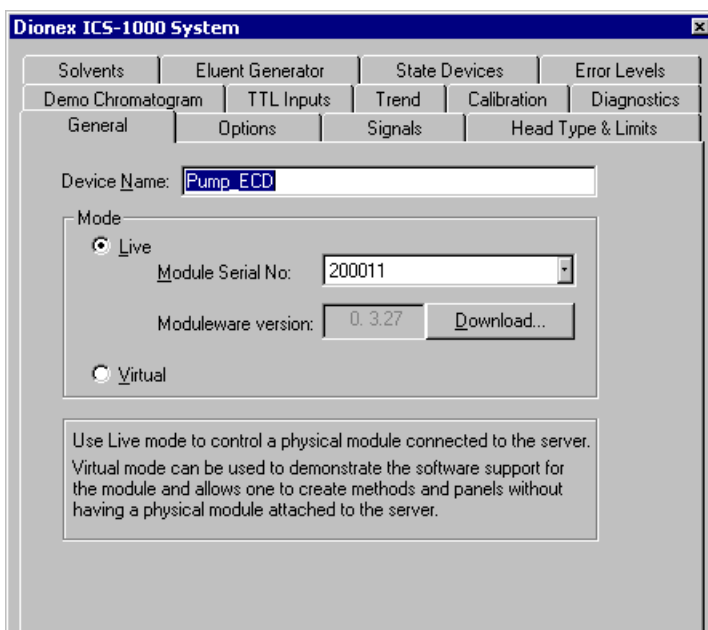

Figure 13. ICS-1000 System Properties
- The ICS-1000 System dialog box opens (see Figure 13). The **General** page shows the Device Name (**Pump_ECD**), the Mode (**Live**), and the Module Serial No.